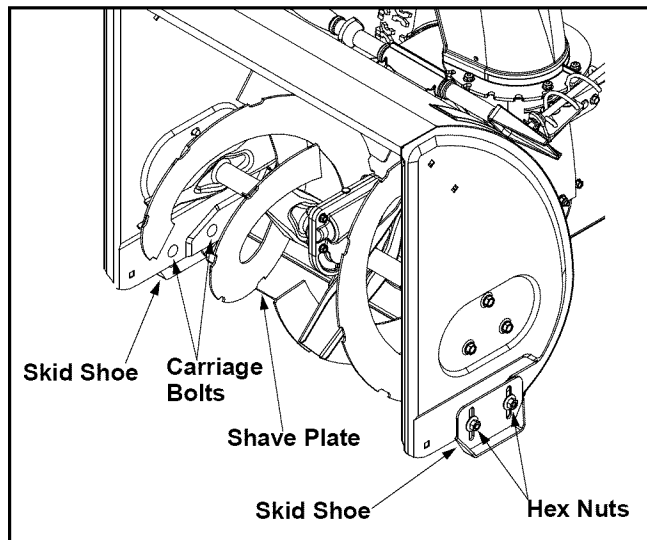

Figure 26
- To remove skid shoes, remove the four carriage bolts, bell washers and hex nuts which attach them to the snow thrower. Reassemble new skid shoes with the four carriage bolts, bell washers (cupped side goes against skid shoes) and hex nuts. Make certain the skid shoes are adjusted to be level. See Figure 26.